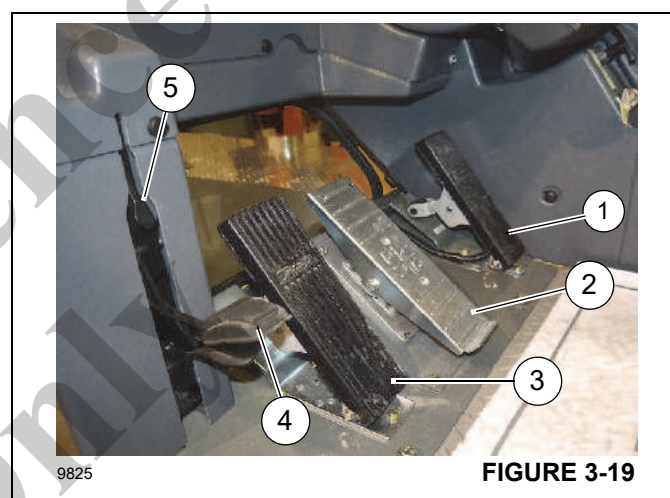

FIGURE 3-19
The Foot Throttle Pedal (1), (Figure 3-19) is located on the right side of the floor. It controls engine speed which increases or decreases proportionately with the amount of foot pressure applied to the pedal.
The Telescope Control Pedal (2), (Figure 3-19) (Optional) is located in the middle of the cab floor. Pushing the top of the pedal extends the boom and pushing the bottom of the pedal retracts the boom.
The Swing Brake Pedal (3), (Figure 3-19) is located on the left side of the cab floor. It actuates the swing brake to slow or stop swing motion. Braking increases or decreases proportionately with the amount of foot pressure applied to the pedal.
The 360° Swing Lock Pedal (4), (Figure 3-19) is located on the left side of the cab floor. The pedal activates the swing lock to prevent superstructure from turning.
The 360° Swing Lock Release Lever (5), (Figure 3-19) is located on the left side of the cab floor, directly above the 360° Swing Lock Pedal (4). Lifting up on the lever releases the 360° swing lock